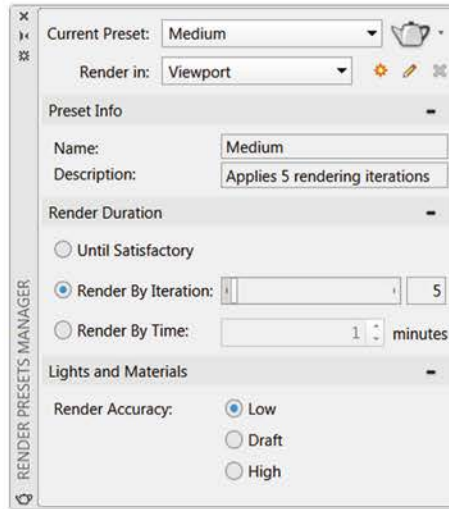

Fig. 16.20 The Render Presets Manager dialog
5. Enter `rpref` at the command line. The Advanced Render Settings palette appears. In the palette, in the **Render in** field, click the arrow to the right of **Window** and, in the popup menu that appears, click **Viewport** as the rendering destination (Fig. 16.20).